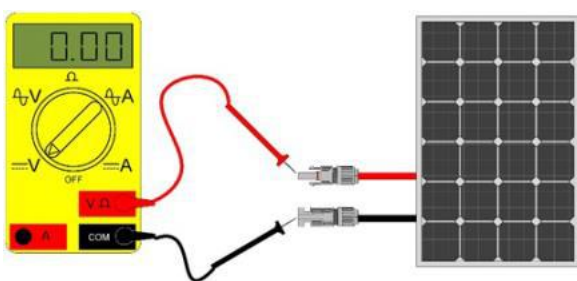

Figure.1.
1. Adjust the multimeter's setting to 200V, connect the red probe to the positive side of the solar panel output cable, and connect the black probe to the negative side of the output cable. Check the value displayed on the multimeter. This value should be between $20 \pm 2V$ (this may vary depending on weather conditions).Figure.1.